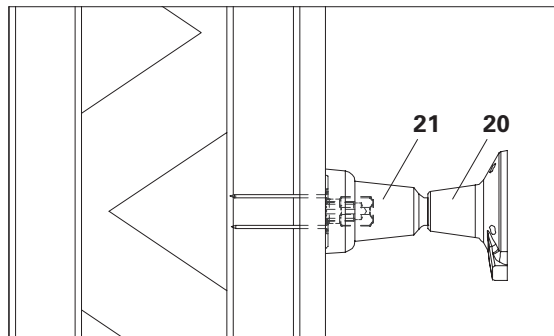

Fig. A5.06
2. Tightly screw pre-assembled ties (**20 +21**) onto Anchor Positioning Stud M24 (**22**) and tighten. (Fig. A5.06)